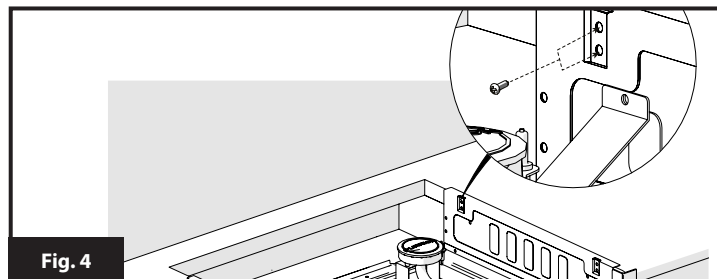

Fig. 4
5. Fix the cooktop in the cabinet opening on both left and right using four self-tapping screws on both left and right (2 screws each side). (Fig. 4)